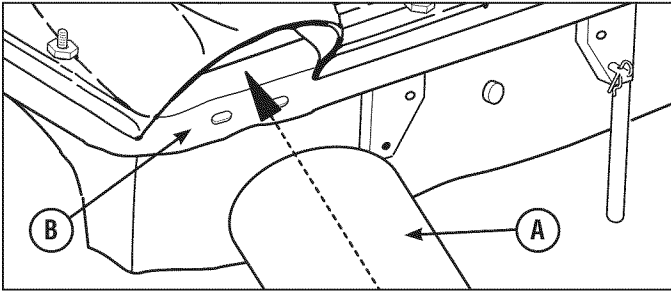

Figure 13
1. Insert catcher tube (A, Figure 13) in opening of grass catcher cover (B).